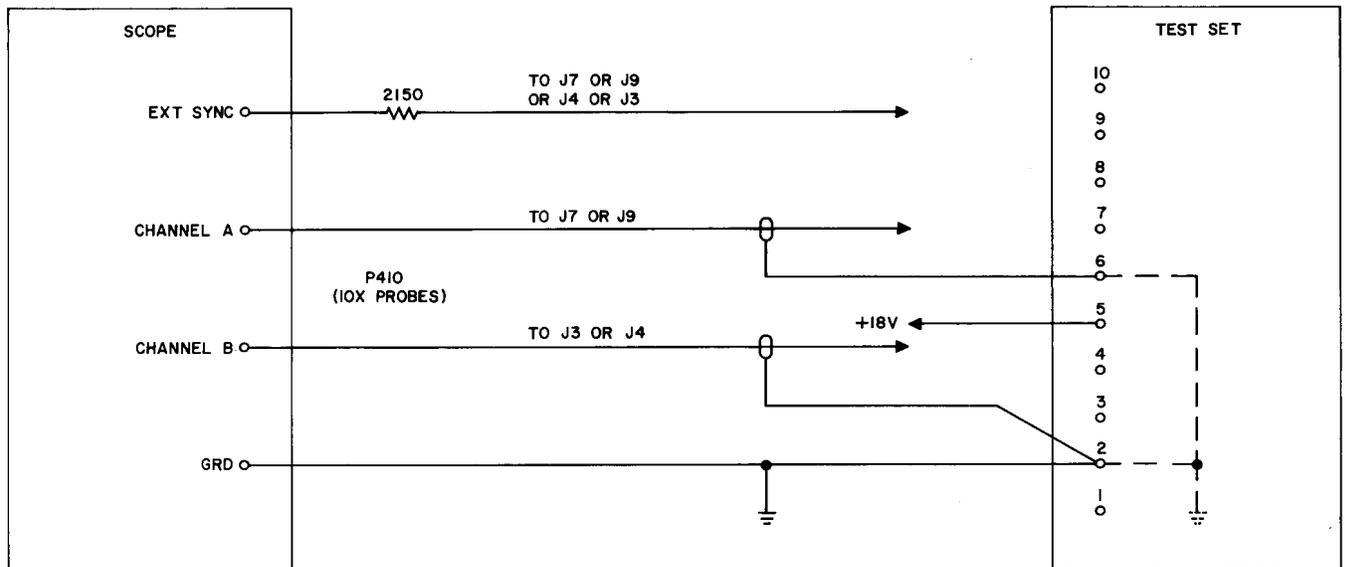

Fig. 7A — Complementary Flip-Flop Test Circuit
3.05A Set up the test circuit as shown in Fig. 7A. The scope EXT SYNC TRIGGER selector should be set to the (+) positive position.